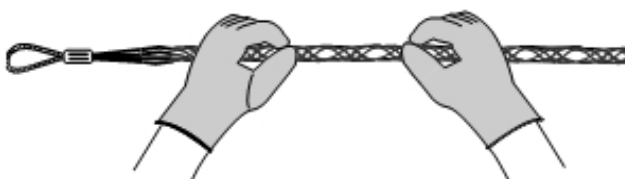

Figure 4
4.3 Once the proper grip is obtained, inspect it for damage broken wires, bulges due to stress, rust, etc. Grasp the pulling eye in one hand (gloves are recommended) and smooth out the mesh with the other, tightening the wires. Figure 4 illustrates the technique, which is critical when reusing grips.